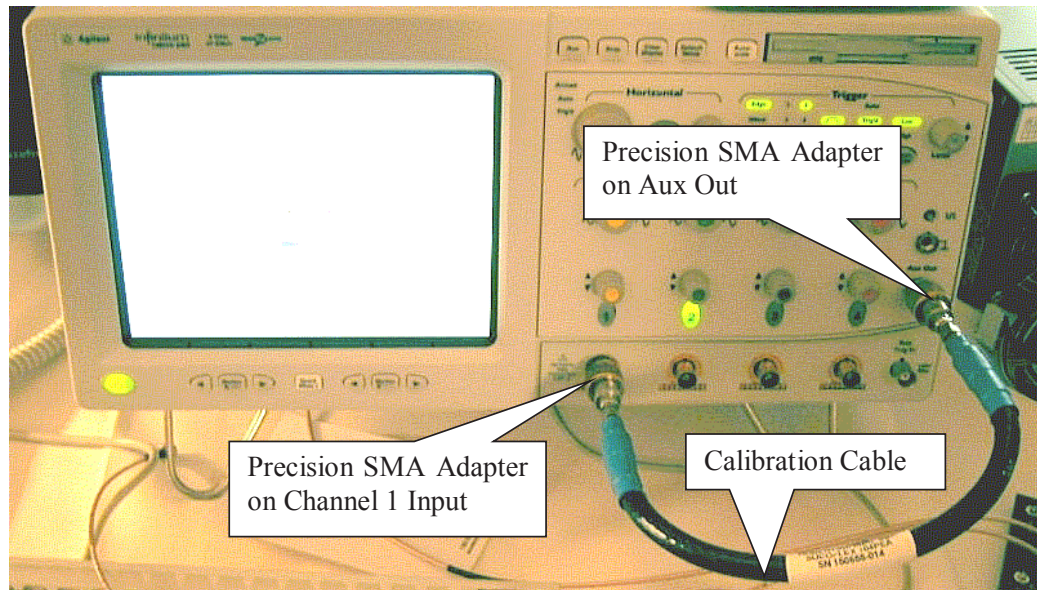

Figure 107 Calibration Cable Connection Example.
- c Then you will be prompted to connect the calibration cable with SMA adapters between the Aux Out and a specified input, as shown in the example in Figure 107 below. Install the SMA adapter by pressing it on input BNC, and hand tightening the outer ring turning right. Click the OK button after connecting the cable as prompted.